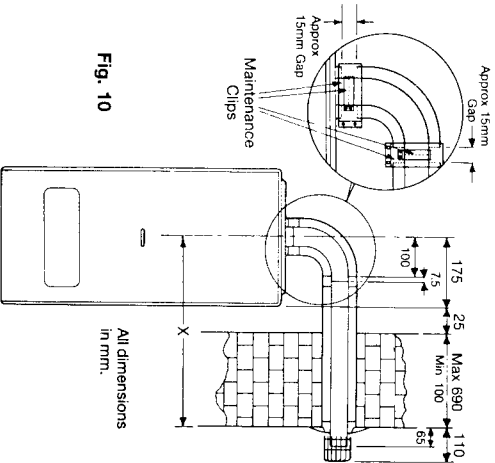
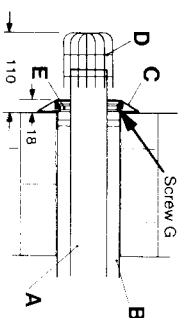

Fig. 10
Fig. 12
5.5.1 Refer to figures 10 - 13.
5.5.3 Hang the boiler on the bracket. Adjust the boiler sideways to its correct position. Locate the small maintenance clip on to the flue elbow (fig 10) and assemble onto the flue outlet on the top of the boiler. Twist the flue bend to the outlet direction required, and tighten the maintenance clip to secure the flue bend in place. Carefully level across to check that the hole through the wall is at the same level as the flue bend.
5.5.4 Measure carefully from the actual face of the outside wall to the centre of the flue bend. (Dimension X on Figs 10 & 11).
NOTE: The two tubes must be separated by removing screw G (fig 12) before cutting. The outer air tube should also be shortened by the same amount to allow a gap for easy working (see inset on fig 10).
- 5.5.9** Ensure inner and outer terminal tubes are firmly fitted together with screw G (fig 12). Push the terminal tubes through the wall until the face of the outer tube protrudes 18mm from the face of the wall (fig 12). The terminal grill (D) will then protrude 110mm from the wall face.
- 5.5.16** Check also that the outer end of the flue projects as indicated in fig 12.
- 5.5.17** Referring to fig 10 fit the large maintenance clips into position and secure the clip screws.
- 5.5.19** Seal the peripheral gap around the outer tube with cement or mastic and slip the cosmetic flexible plastic collar (fig 12) item C) into groove on the pipe. This operation can only be carried out with external access.
- 5.5.27** Referring to fig 10 assemble a small maintenance clip on the outlet of the boiler flue bend. Push the inner flue tube into clip and tighten clip screws.
- 5.5.29** Referring to fig 10 fit the large maintenance clip into position and tighten clip screws.
NOTE: The two tubes must be separated by removing screw G fig 12 before cutting.
- 5.5.39** Referring to fig 10 fit the large maintenance clip into position and secure clip screws.